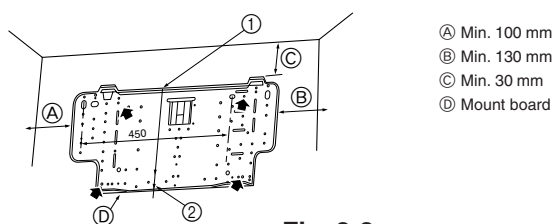

Fig. 3-3
- The mounting fixture must be secured at both ends and at the centre, if possible. Never fix it at a single spot or in any nonsymmetrical way. (If possible, secure the fixture at all the positions marked with a bold arrow.) (Fig. 3-3)